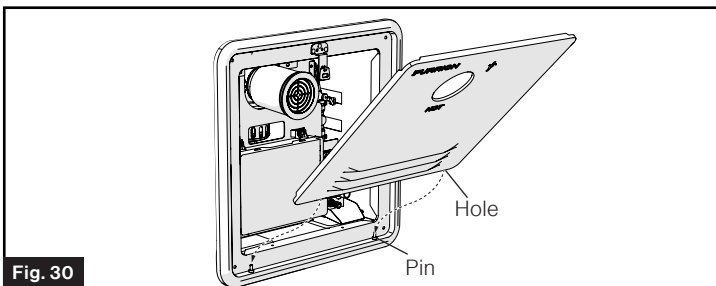

Fig. 30
8. Insert the door into the pins at the bottom of the water heater. (Fig. 30)